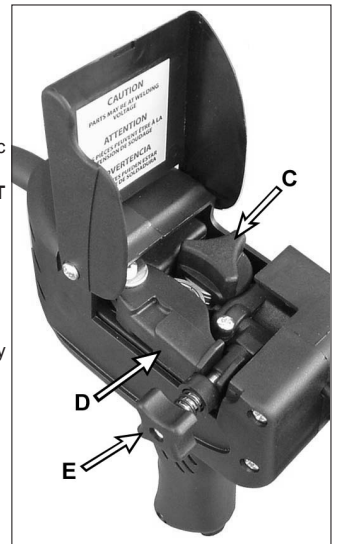

fig.5
- 3.6. Open the hinged wire feed cover on the top of the gun body (see fig.5). Reduce the tension on the pressure roller bracket (D) by partially unscrewing the tension knob (E) anticlockwise and slide the the retaining arm out of the bracket and into the vertical position (see 1 in fig.2). Hinge the pressure roller bracket out sideways (see 2 in fig.2) to reveal the grooved feed roller (A).
- 3.13. Check that the wire is properly seated in its groove in the feed roller and then swing the counter roller bracket inwards to make contact with the wire (see D in fig.5).
- 3.14. Swing the wire tension retaining arm downwards and back into the 'U' shaped slot in the counter roller bracket. Turn the wire tension knob clockwise by about 4 turns to apply medium pressure/tension (see E in fig.5)
- 3.21. Tension between rollers is checked by slowing down the wire between your fingers. If top feed roller skids the tension is correct. Use as low a tension as possible, too high a tension will deform wire and result in a blown fuse on the printed circuit board. Adjust tension by turning knob 'E' (see fig.5).